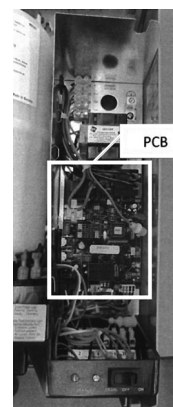

Fig. 2.
4. Locate the Control Board on the panel. (See Fig. 2.)